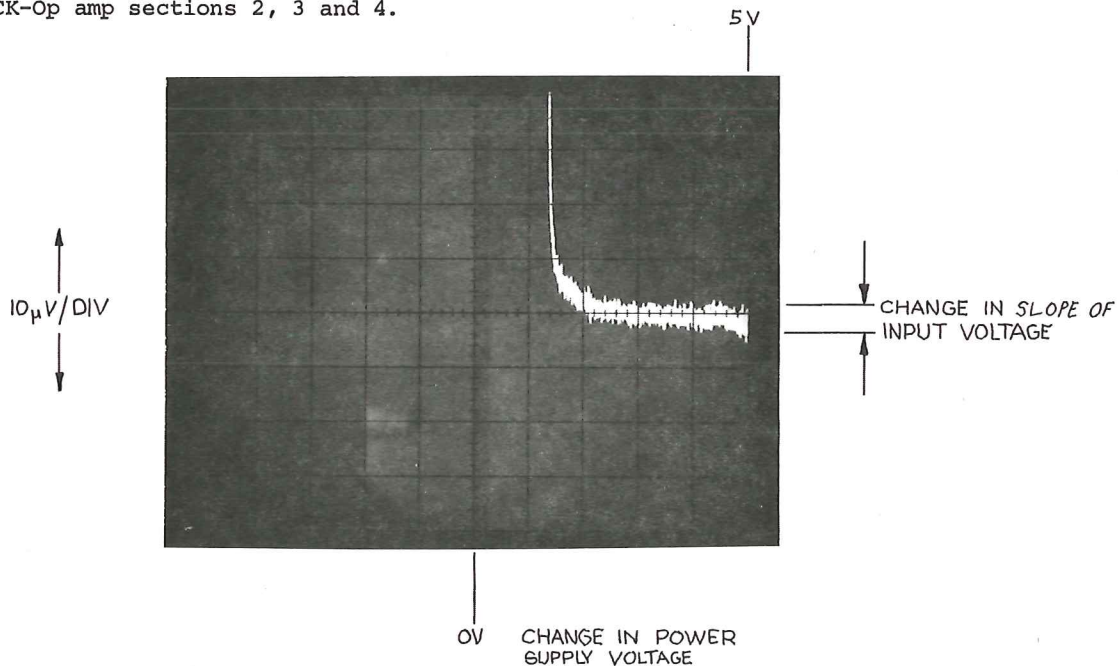

Figure 12. Typical display of power-supply rejection ratio.
- d. CHECK-power supply rejection ratio (PSRR); see Fig. 12. PSRR is power supply voltage swing (horizontal) divided by change in input voltage due to power supply variation (vertical).